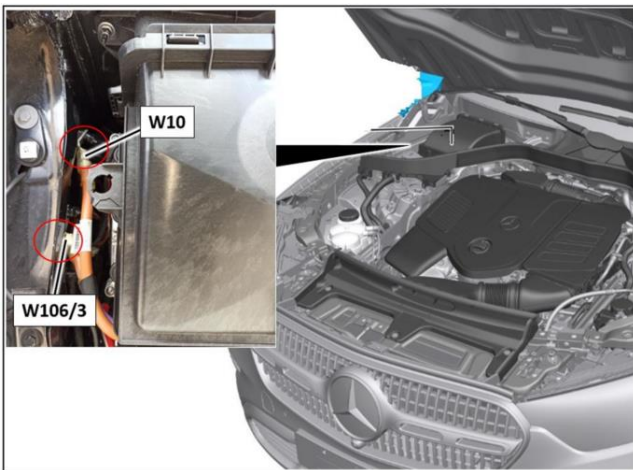

Figure 2, left-hand drive vehicle
3. Check threaded connections of ground points (**W106/3**, **W10**, **Figure 2**) for correct tightening torque.